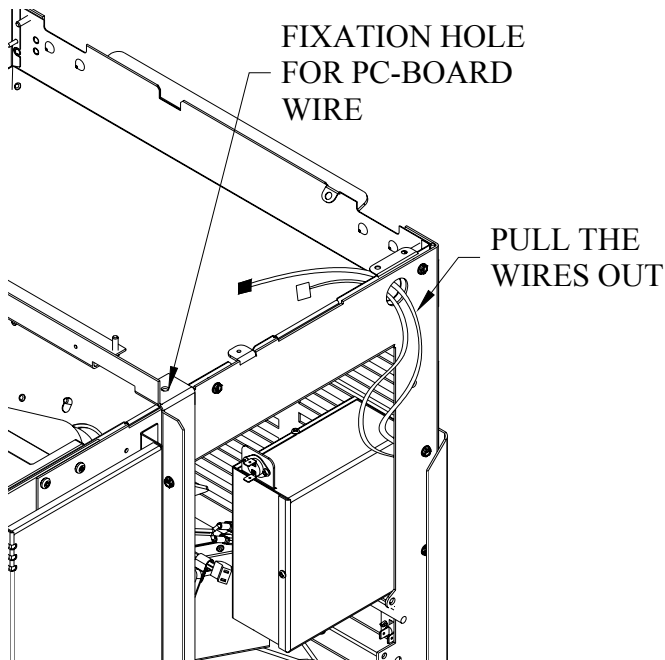
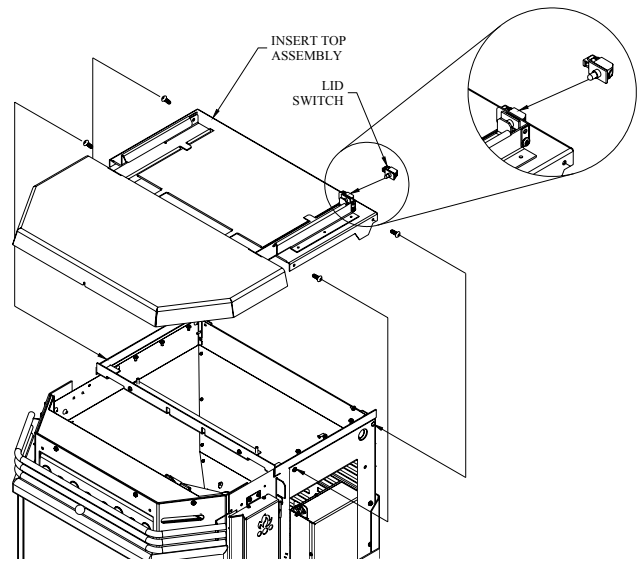

Figure 27
Figure 28
- 2- Pull out the lead wires(Figure 27).Secure the top assembly with the 4 screws and insert the lid switch in the bracket at the rear of the right slide(Figure 28). Plug the white connector to the lid switch.
- 3- Run the wire with the black connector towards the front and secure it using the wire straps and fixation hole(Figure 27)